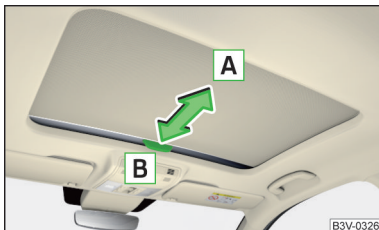

Fig. 62
- › To **open**, pull the handle in the direction of arrow **A** » Fig. 62.